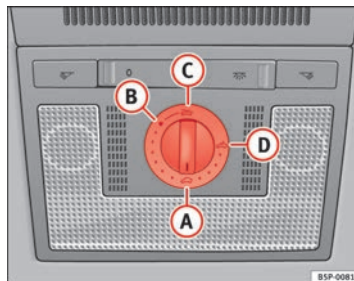

Fig. 68 Roof lining description: sliding/tilting sunroof rotary knob
- Turn the rotary button to position **(A)** ⇒ fig. 68 ⇒ **(A)**.